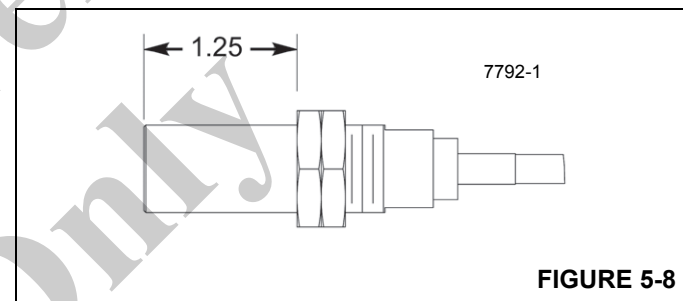

FIGURE 5-8
1. Turn the two jam nuts on the drum rotation sensor to produce 1.25 in. (31 mm) installed length of threads measured from the bottom of the sensor to the bottom jam nut (Figure 5-8).